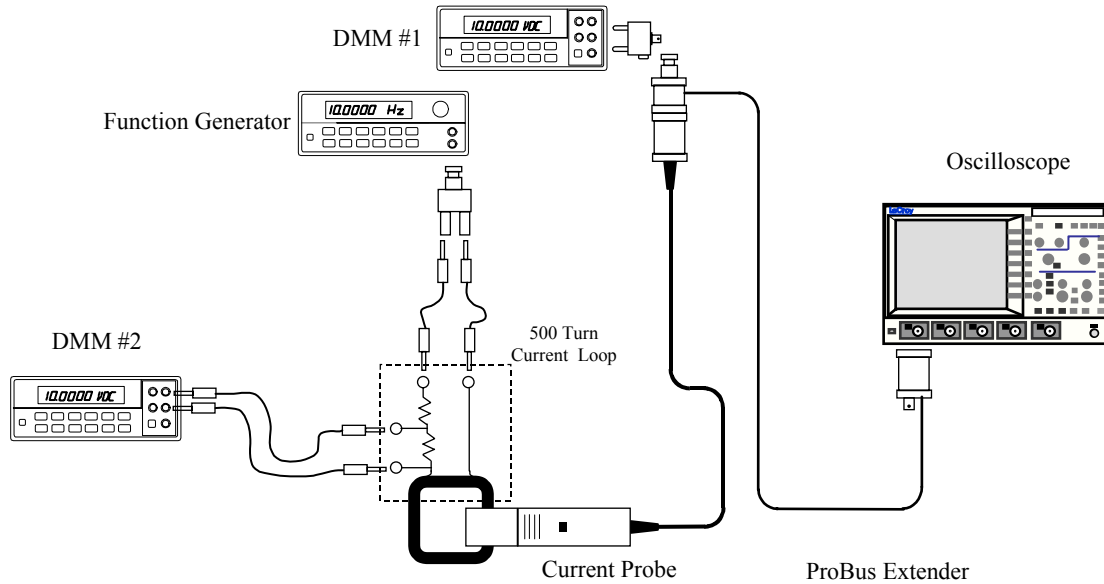

Figure 5-1. LF Accuracy Adjustment Set Up
3. Using banana patch cords, connect the 'V Source' and 'V Return' terminals of the 500 Turn Calibration Loop, to the output of the Function Generator using the BNC to Dual Banana plug adapter Output. (Refer to Figure 5-1).